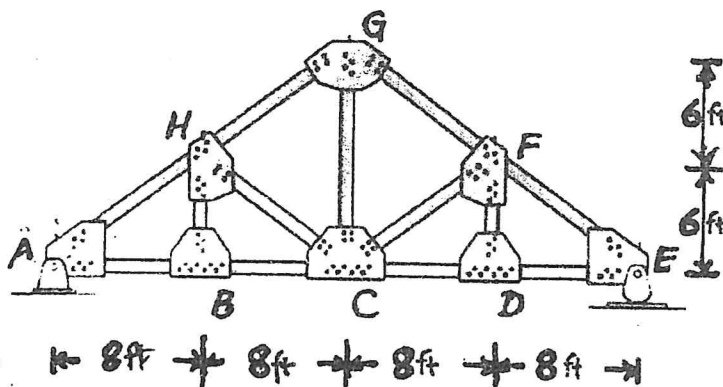

Fig. 11
- (b) Given that the truss shown in Fig. 11 supports the following load,